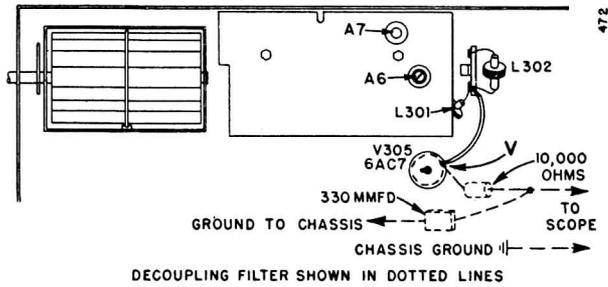

Figure 29. Bottom View Showing Test Point "V".
- Connect oscilloscope\* between point "V" and chassis ground through a decoupling filter; see fig. 29. Keep leads away from receiver.
After becoming familiar with alignment procedure, some servicemen simplify subsequent alignment of sets by merely using the essential alignment data given in figures 29 and 30.
- e. Connect oscilloscope between point "V" and chassis ground through a decoupling filter (see figure 29). Keep oscilloscope leads away from chassis.